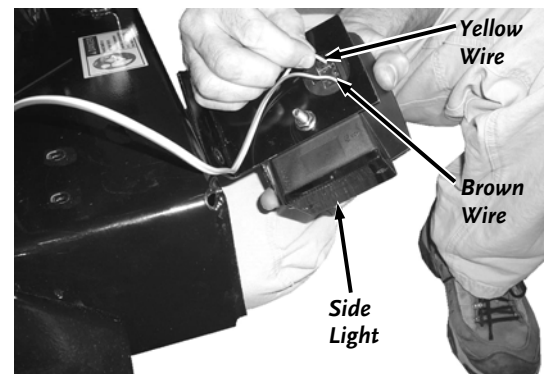

Figure 65
5. Push the Yellow Wire into the top left hole in the back of the light socket and push the Brown Wire into the top right hole (**Figure 65**).